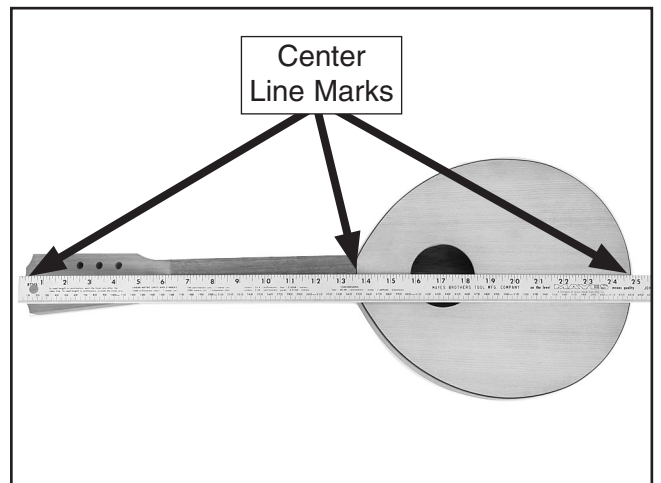

Figure 7. Checking neck and body alignment along center line.
4. Place a straightedge across your center marks as shown in **Figure 7**.